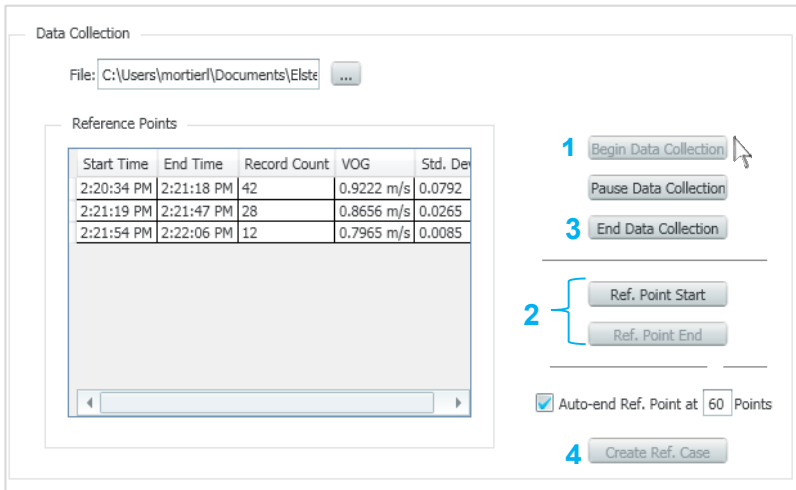

Figure 17-6 Steps for creating a new reference case
- ▶ Click on **Begin Data Collection** (Marked as 1 in Figure 17-6)
- ▶ Press the **Ref. Point Start** button. (Marked as **2** in Figure 17-6.) SonicExplorer will ask for some process conditions. For information on process conditions ⇒ see Chapter 10 Meter Monitoring \(Service\) (p.27). Meanwhile, SonicExplorer will start making a reference point for the number of desired points.
- ▶ Press **Ref. Point Start**; (marked as **2** in Figure 17-6) SonicExplorer will again ask for some process conditions. ⇒ See Chapter 10 Meter Monitoring \(Service\) (p.27) for more information on process conditions. Meanwhile SonicExplorer will begin making a reference point.
- ▶ SonicExplorer will only stop recording the reference point when **Ref. Point End** is pressed. (Marked as **2** in Figure 17-6.)
- ▶ When all reference points are taken, press **End Data Collection**. (Marked as **3** in Figure 17-6.) Sonic Explorer will stop logging the data.
- ▶ Click on the **Create Ref. Case** button. (Marked as **4** in Figure 17-6.) A menu will pop-up for naming the reference case. Please fill in as desired.
- ✓ All reference points will be shown in the **Data Collection** table, labeled as **Reference Points** as seen in the left hand side of Figure 17-6.